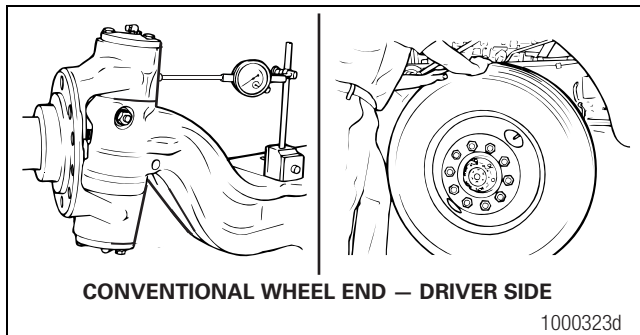
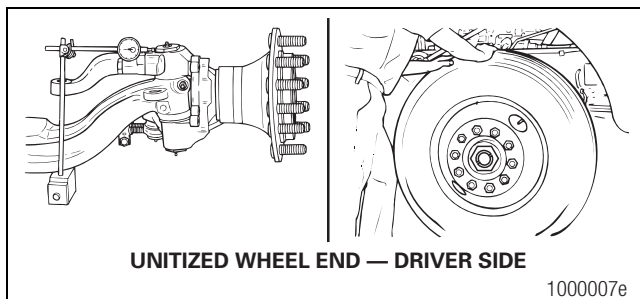

Figure 6.11
Figure 6.12
3. Check the upper king pin bushing for wear. Install a dial indicator with the base on the I-beam and the tip against the side of the top of the knuckle. Figure 6.11 and Figure 6.12.
- **If the indicator moves a total of 0.010-inch (0.254 mm):** The upper bushing is worn or damaged. Replace both bushings in the knuckle. Refer to Maintenance Manual 2, Front Non-Drive Steer Axles, for more information. Figure 6.11 and Figure 6.12.